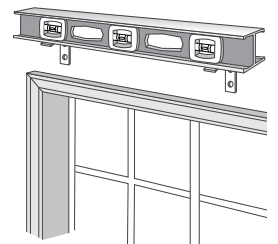

figure 2
3. Working from one side of the window to the other, install remaining brackets following step 2. Use a level to ensure that each bracket is aligned with the first bracket installed (figure 2).